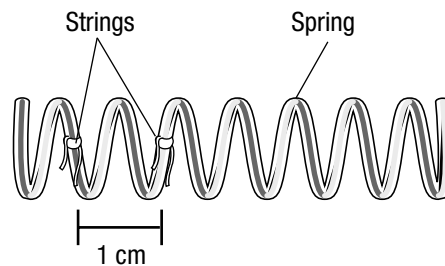

Figure 1
- 1. Comparing and Contrasting** A spring is placed on a tabletop, and one end is held in a fixed position. Two strings are tied to the spring on coils about 1 cm apart, as shown in Figure 1. Then, the spring is given a shove at the left end, causing a wave to travel through it toward the right.